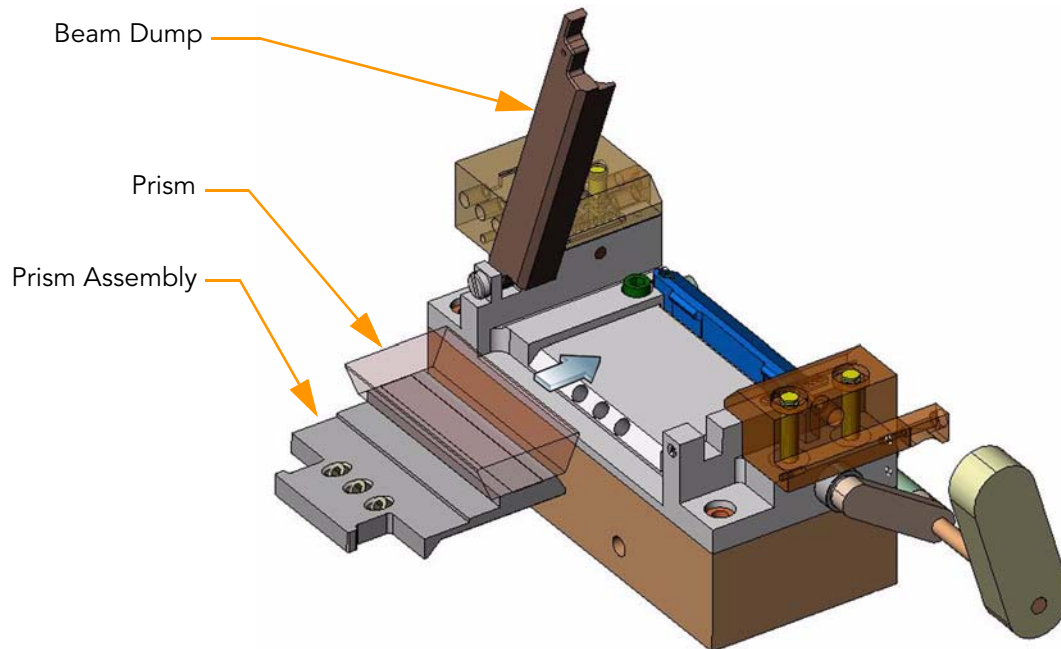

Figure 66 Loading the Prism
3. Lift the beam dump and slide in the prism assembly (Figure 66).